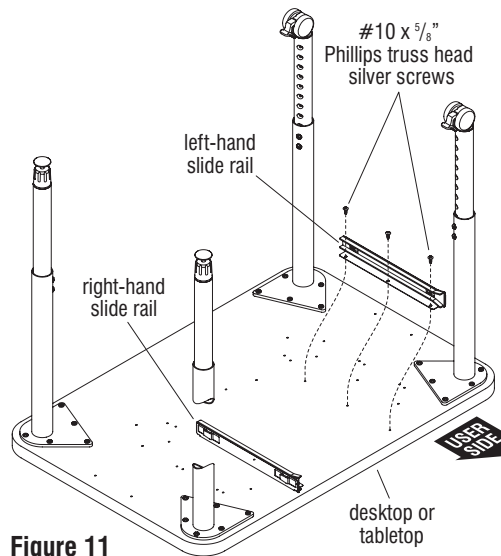

Figure 11
1. Locate and identify the left- and right-hand slide rails, then orient them as illustrated in Figure 11. The openings on the slide rails must face each other and the V-shaped openings must face the front, "user side" of the top. Secure each rail to the top using **three #10 x 5/8" Phillips truss head silver screws**. Take care to keep the rails straight, and do not overtighten the screws (Figure 11).